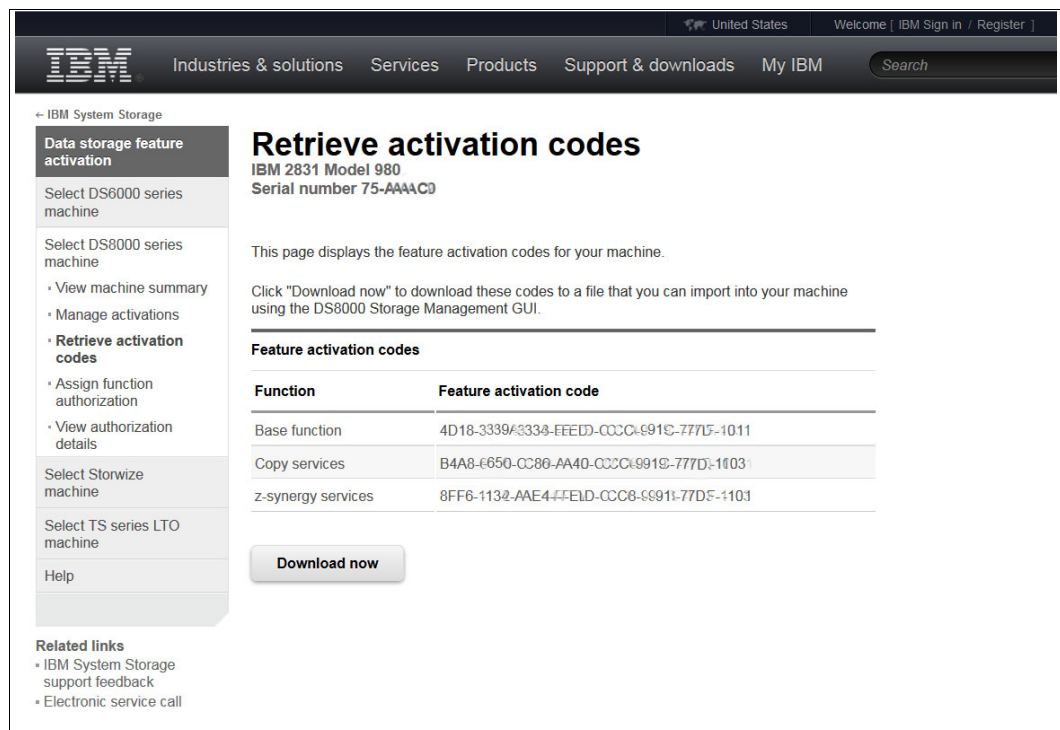

Figure 7-12 DSFA Retrieve activation codes window
- The Retrieve activation codes window opens, which shows the license activation codes for the storage image, as shown in Figure 7-12. Print the activation codes or click **Download now** to save the activation codes in an XML file that you can import into the DS8000.